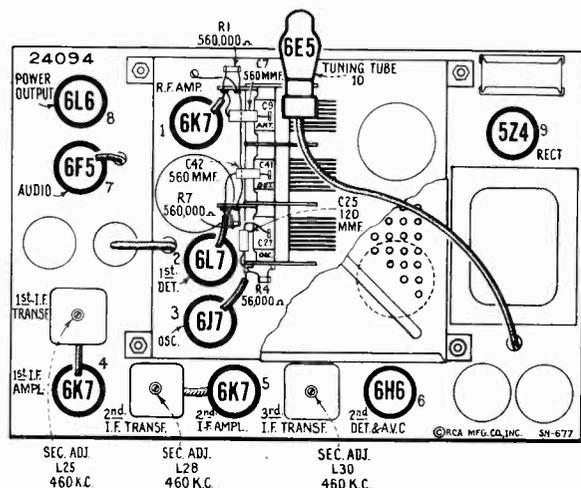

Figure 1—Radiotron and I-F Trimmer Locations
- (c) Adjust the two magnetite core screws L30 and L29 (see figures 1 and 8) of the third i-f transformer (one on top and one on bottom) to produce maximum vertical deflection of the oscillographic image. This adjustment places the transformer in exact resonance with the 460-kc signal.